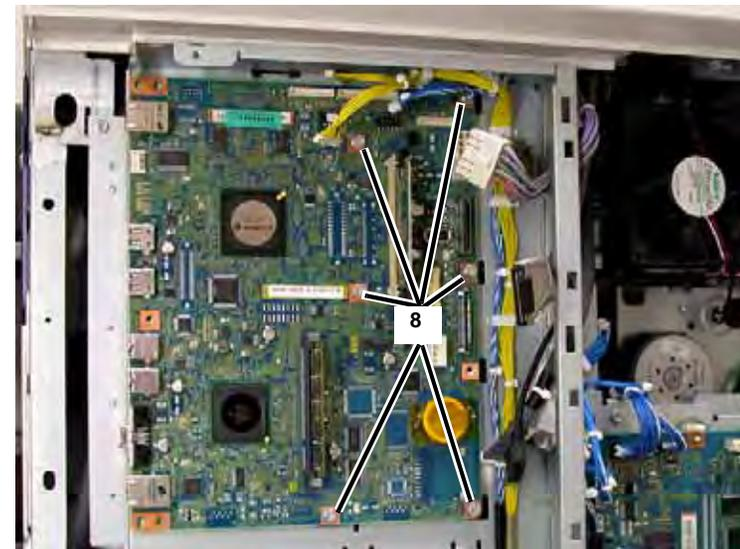

Figure 7 Removing Screws
8. Remove the ESS PWB (6 Screws) (Figure 7).